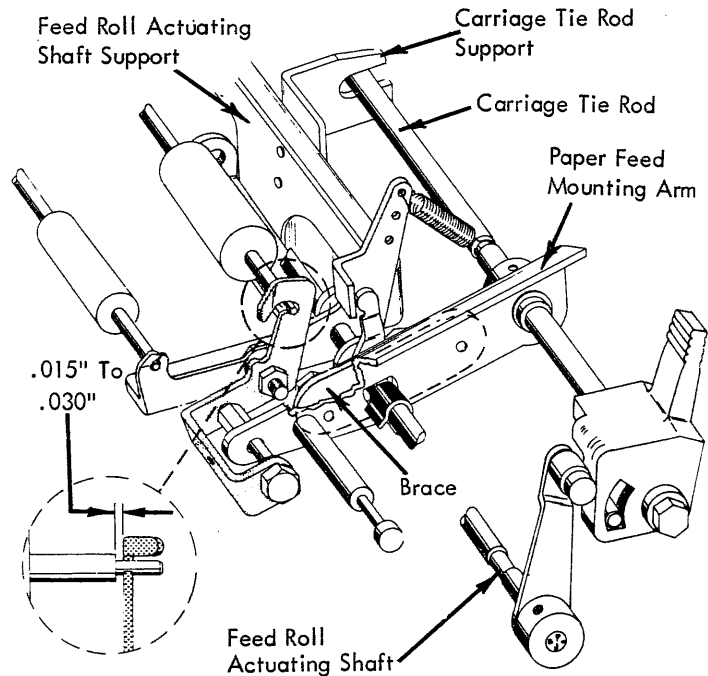

FIGURE 187. Paper Feed Mechanism
2. Paper Feed Braces - (early paper feed mechanism only) - With the feed roll tension springs disconnected the adjustable braces fastened to the paper feed mounting arms should be adjusted all the way forward without deflecting either the feed roll actuating shaft or the carriage tie rod (Fig. 187).
- a. Early Paper Feed Mechanism - With the feed roll tension springs disconnected, the vertical supports for the carriage tie rod and the feed roll actuating shaft should be adjusted to just touch the bottom of each shaft (Fig. 187). The feed roll actuating shaft support should be loose when the tie rod support is adjusted.
- a. Early - The left and right hand paper feed mounting arms should be adjusted to provide the rear feed roll shafts with an end play of .015" to .030" when the feed rolls are against the platen (Fig. 187).